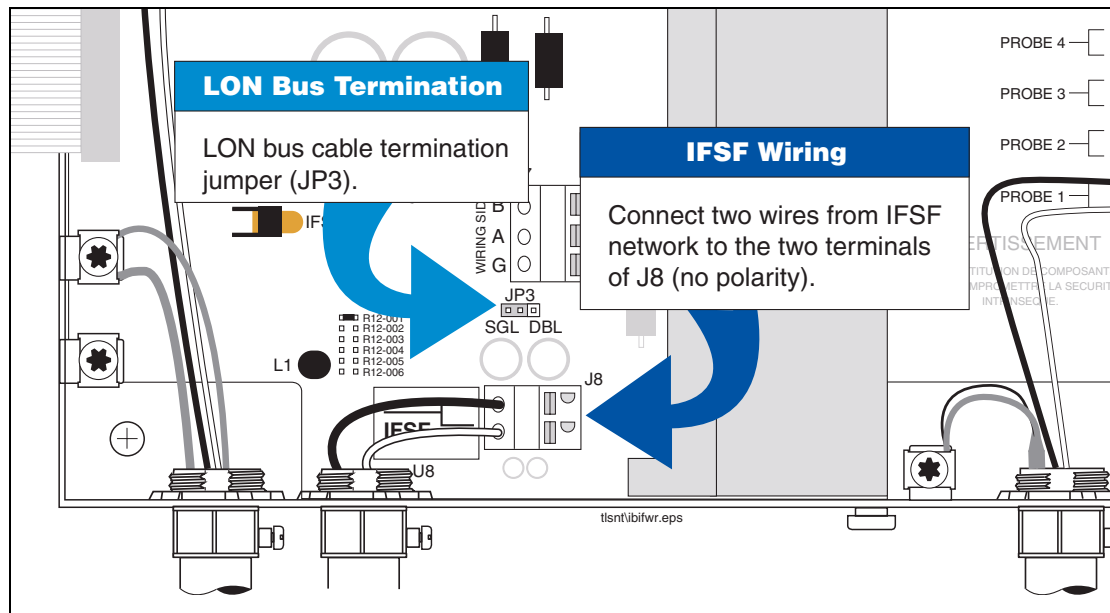

Figure 26. Connecting IFSF Network wiring to TLS-IB
1. With AC power switched Off, connect the IFSF network wires to J8 in the TLS-IB as shown in Figure 26 below:
2. The LON cable termination jumper (JP3 in Figure 26) is shown in the single position (SGL). The single position is used when the TLS-IB is a Free Topology Segment in the LON network and only one termination is required. The double position (DGL) is used when the TLS-IB is a Doubly Terminated Bus Topology Segment in the LON network and two terminations are required. To set the jumper in the DGL position, move it to the right (jumper over the middle and right pins).